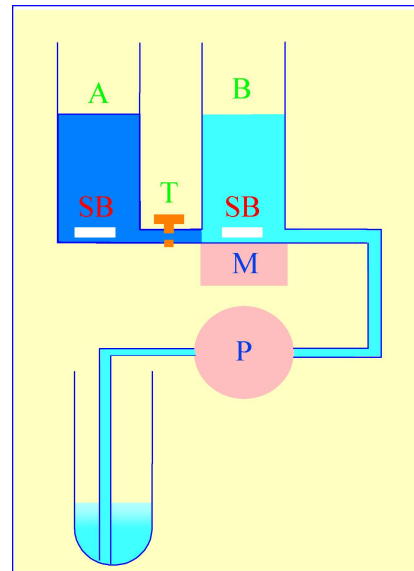

Figure 3: Two-chamber gradient maker (for details see text)
The traditional way of constructing a continuous gradient is to use a standard two-chamber gradient maker (Figure 3). It consists of two identical chambers connected close to their bases by a tapped channel (T). One of the chambers (the mixing chamber – B in Figure 3) has an outlet directly opposite the inlet from the tapped channel.
1. Set up the device with the mixing chamber (B) resting on a magnetic stirrer (M) and the outlet tube leading via a peristaltic pump (P) to the bottom of the centrifuge tube.
2. Place the chosen high-density solution in the non-mixing chamber (A) and then momentarily open the tap (T) to allow dense liquid to fill the connecting tube.
3. Pour an equal volume of the low-density solution in the mixing chamber (B).
4. Place two identical stirring bars (SB) in the two chambers (this ensures that the height of the two solutions is the same).
5. In rapid sequence, switch on the pump (P) and the magnetic stirrer (M) and then open the connecting tap (T). As the levels in the two chambers fall synchronously, reduce the speed of the stirrer to avoid generating air bubbles that may enter the gradient and disturb it.
- ◆ The gradient can alternatively be produced high density end-first, in which case the location of the two solutions needs to be reversed and the delivery tube to the centrifuge tube must be placed against the wall of the centrifuge tube near to its top, so the gradient flows down the tube smoothly. This can pose some problems of mixing in the centrifuge tube if the flow down the tube wall is in the form of large drops rather than a continuous stream (this may be minimized by tilting the tube), on the other hand the tendency of the low density medium to float to the surface of the high density medium in the mixing chamber (B) aids mixing. The Labconco Auto Densi-Flow gradient unloader can be used to deposit a gradient high-density end first. Although this device is no longer commercially available, it will be found in many laboratories and often appears in laboratory equipment websites.
Convex and concave gradients cannot be produced with the standard two-chamber gradient mixer (see Figure 3). However if the non-mixing chamber is made twice the diameter of the mixing chamber, then with low-density solution in the mixing chamber a convex gradient is produced; if the locations of the low density and high-density solutions are reversed, a concave gradient is produced.